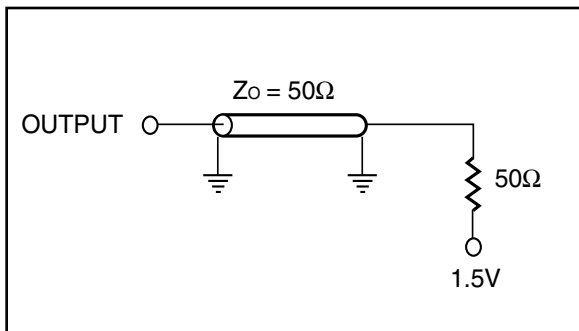

Figure 1
1. Test conditions assume signal transition times of 2 ns or less, timing reference levels of 1.5V, input pulse levels of 0 to 3.0V and output loading specified in Figure 1.
1. Test conditions assume signal transition times of 1.5 ns or less, timing reference levels of  $V_{DD}/2$ , input pulse levels of 0.4v to  $V_{DD}-0.3V$  and output loading specified in Figure 1.